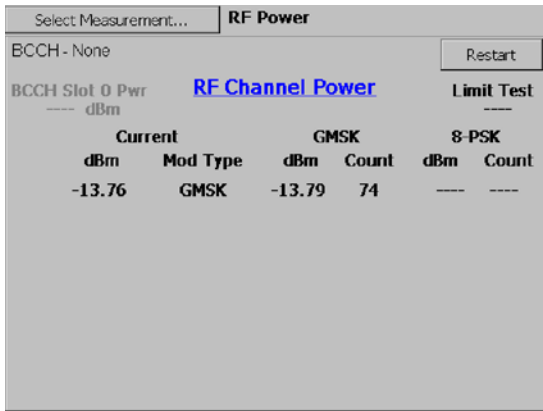

Figure 3-36: GSM/EDGE RF Power with BCCH turned off
- **Off (no frame sync):** Turns off BCCH frame sync, causing the YBT250 to attempt to acquire slot sync by using the power envelope ramps (edges) of the received signal. The YBT250 then measures one randomly-chosen slot. Figure 3-36 shows a typical RF Power measurement with BCCH set to Off.